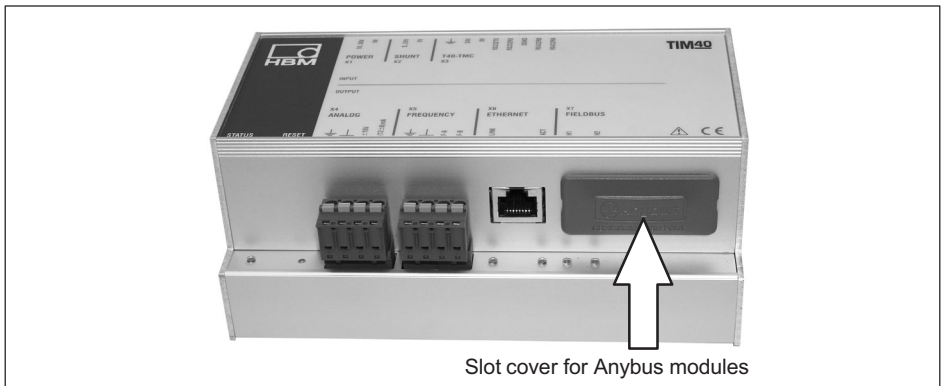

Fig. 8.1 Remove cover
- ▶ Place the TIM40 housing on a flat surface as shown in *Fig. 8.1*.